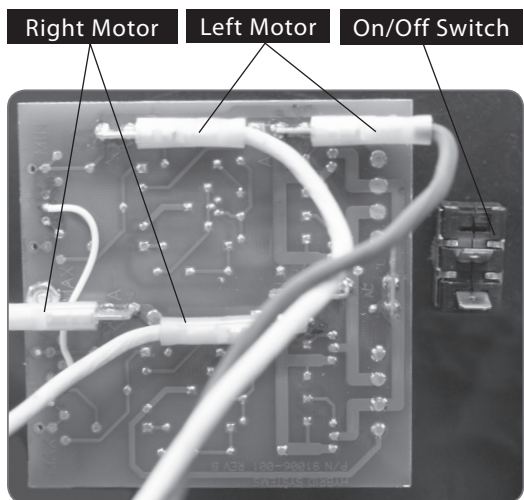
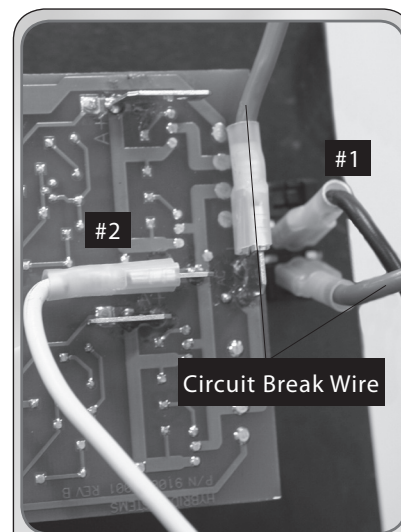

Figure 14 Wiring diagram for all two motors.
Figure 13
3. Remove four screws holding controller faceplate into main casting. Note the position of the main power and motor wires on the controller, then disconnect the wires. See Figure 14 for the two motor wires. See Figure 13 for the main power cord wires.
Be sure wires are correctly reinstalled. Motor wire connectors are different sizes. Be sure they are installed on the correct size terminal. See Figure 14 for the two motor wires and Figure 13 for the power cord wires.